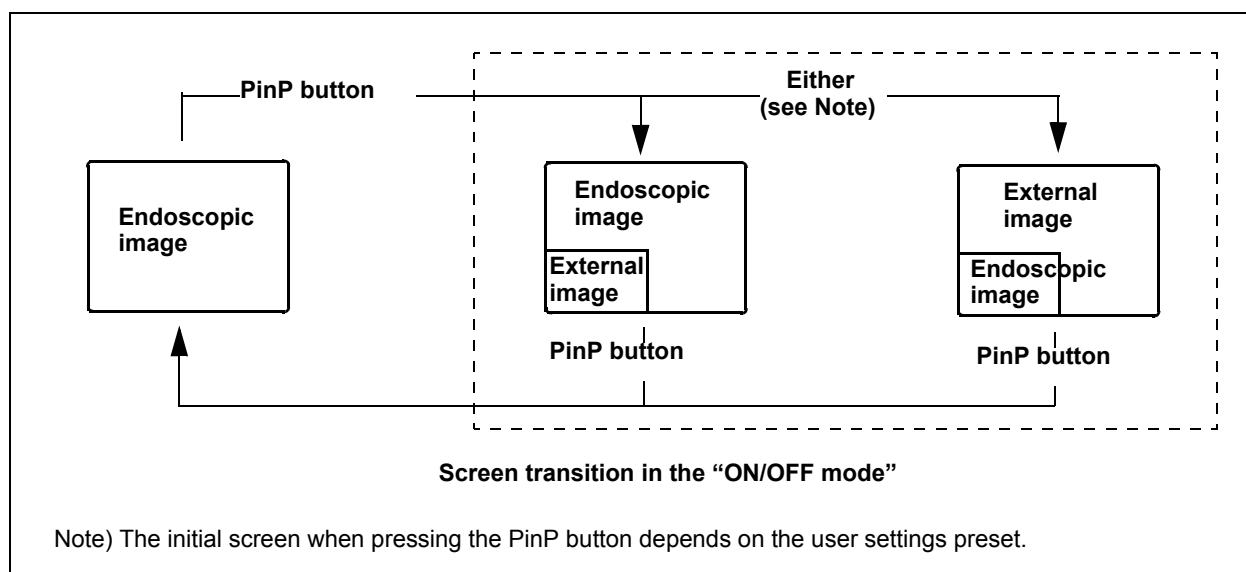
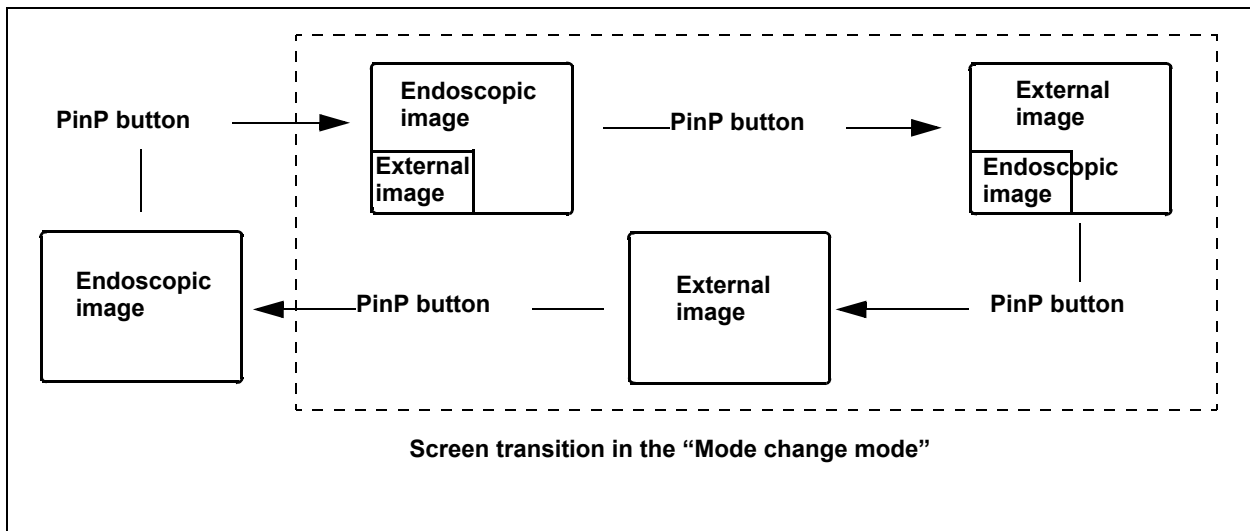

Figure 5.4
Figure 5.5
4. Press the “PinP” button to change the display. The transitions of the displays are different according to the settings in “User preset” menu (see Figure 5.4 and Figure 5.5) (refer to “PinP (picture in picture) function” on page 246 for the setting method).